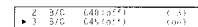

Fig. 26.
- 6 After fine tuning, press OK. The cursor appears beside the next programme position (at the left margin). (See Fig. 26.) Now the fine-tuned level is stored.